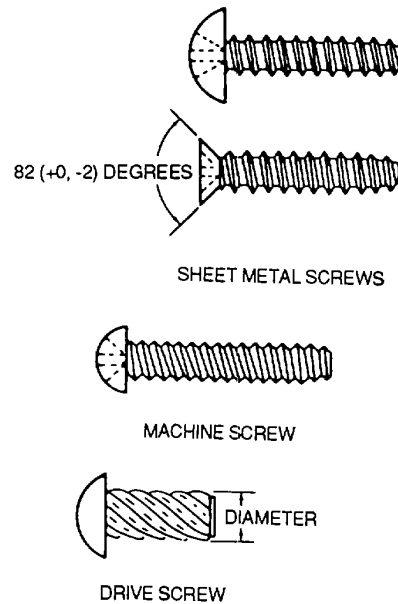

Figure 2-40. Self Tapping Screws
(1) **Machine screws.** Use AN504 machine self-tapping screws, as shown in figure 2-40, to attach removable parts such as nameplates and other similar items to castings. These screws tap their own mating threads when driven into untapped drilled or punched holes slightly smaller than the outside diameter of the screw itself.
(3) **Drive screws.** Drive screws, MS21318, as shown in figure 2-40, are plain head, self-tapping screws used as capscrews in the attachment of nameplates in castings or in sealing drain holes in corrosion-proofing tubular structures. These screws differ from other self-tapping screws in that they are not formed to fit screwdrivers and are not intended to be removed after installation. Drive screws are installed by driving the screw into a drilled hole with a hammer.